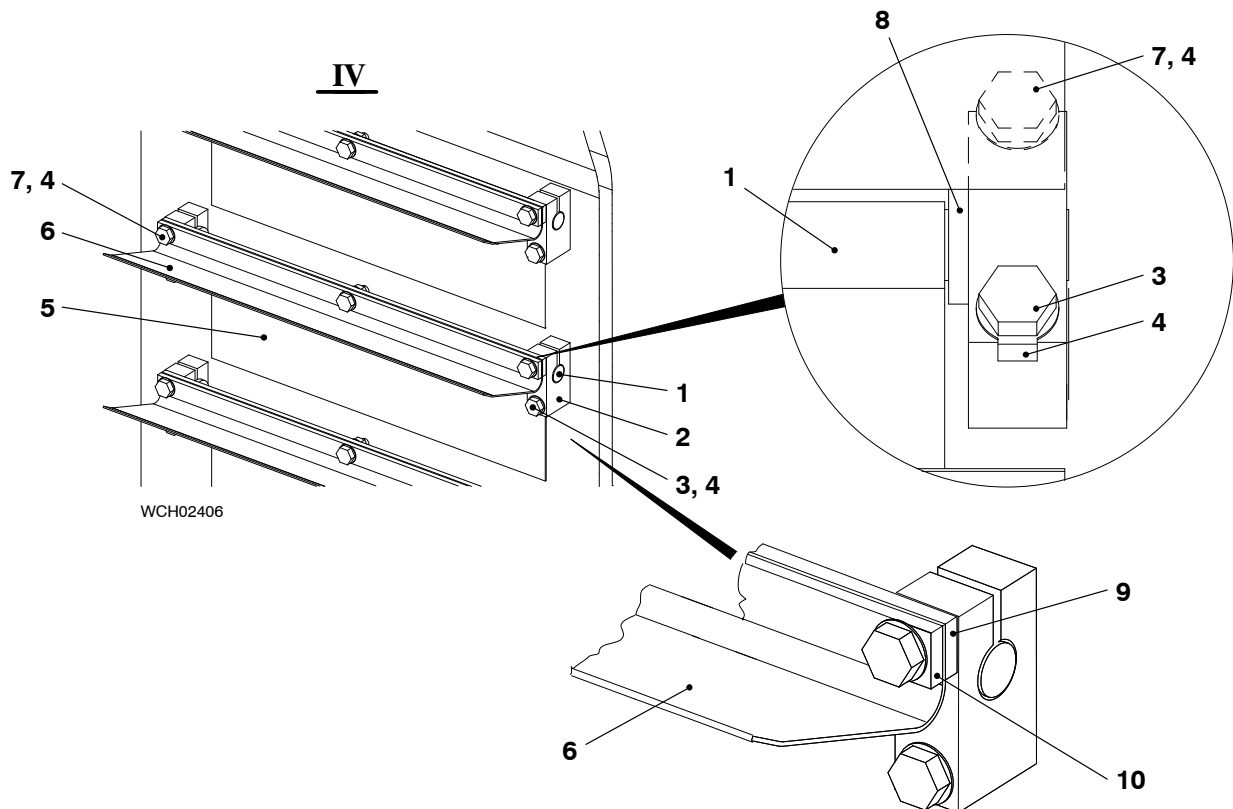

Fig. 3: Flaps
For View IV, see Fig. 3
- 1) Remove the three screws (7, Fig. 3) and the tab washers (4).
- 2) Remove the two flat bars (9, 10) and the stop plate (6).
- 3) Remove the screw (3) and the tab washer (4).
- 4) Remove the guide (2), spacer (8), flap (5) and axle (1).